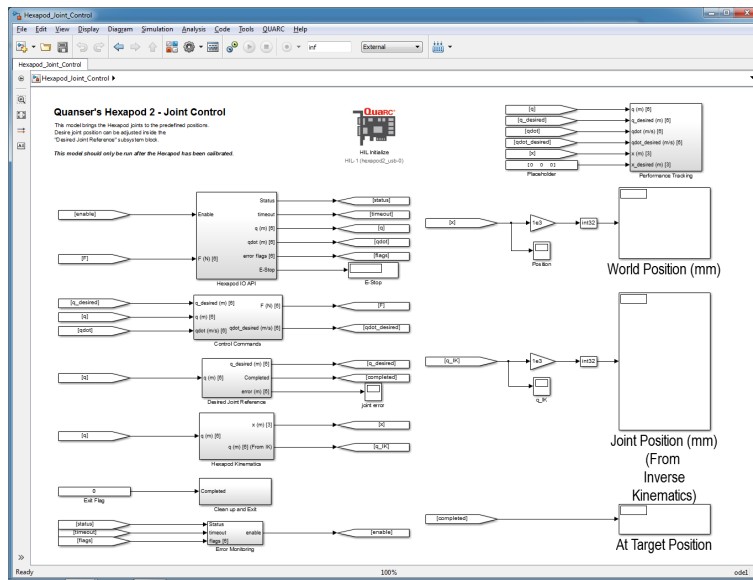

Figure 2.3: Simulink model used to command joint-level positions to the 6 DOF Hexapod using QUARC.
This Hexapod_Joint_Control.mdl controller shown in Figure 2.3 applies position commands to the base-level linear actuators. The user can specify the amplitude and frequency of the sine wave on-the-fly and read corresponding position measurements.
3. Open the Simulink model called Hexapod_Joint_Control.mdl, shown in Figure 2.3.